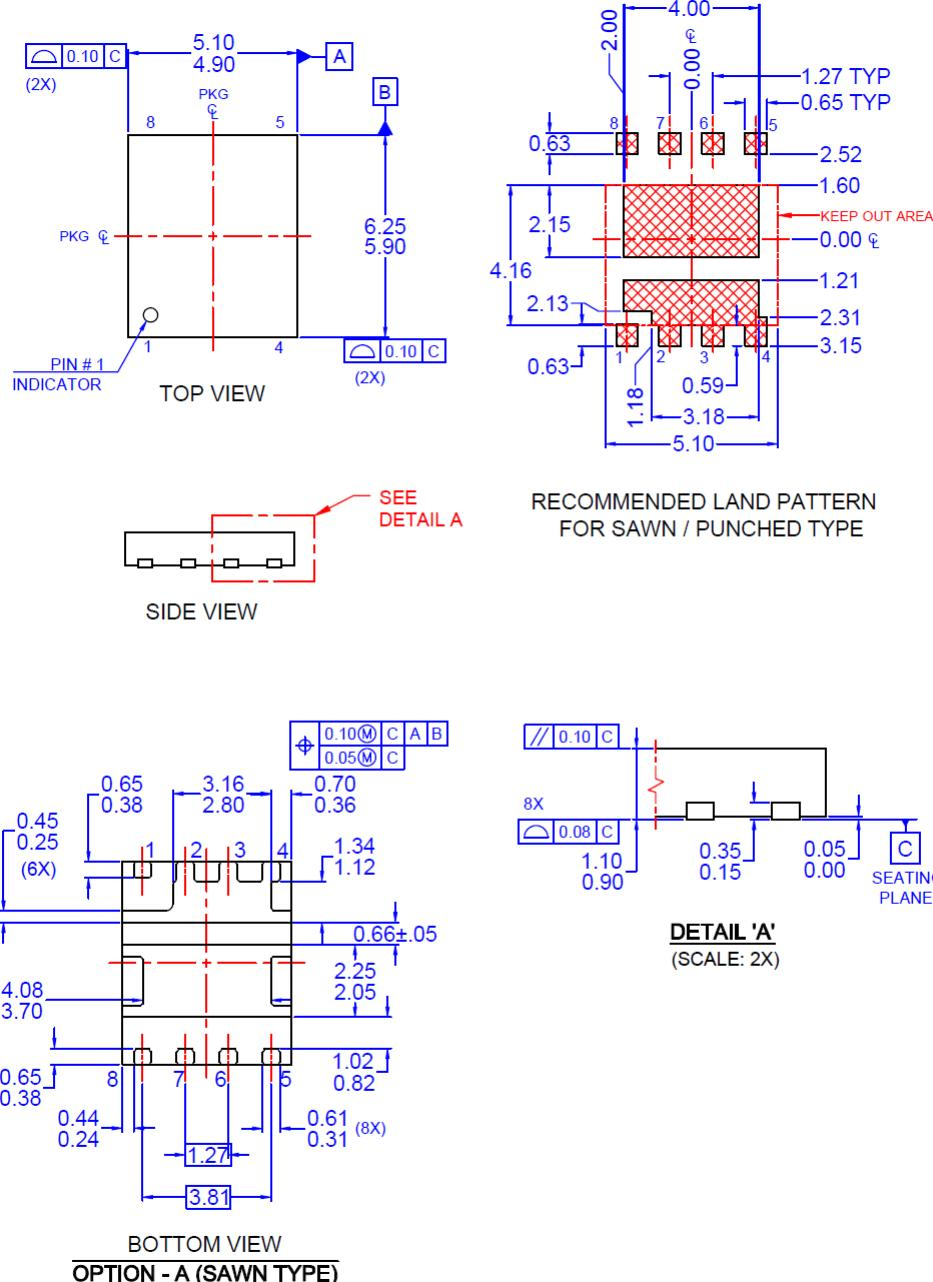

**Figure 31. Recommended PCB Layout**
2. The PHASE copper trace serves two purposes; In addition to being the current path from the Power Stage package to the output inductor (L), it also serves as heat sink for the lower FET in the Power Stage package. The trace should be short and wide enough to present a low resistance path for the high current flow between the Power Stage and the inductor. This is done to minimize conduction losses and limit temperature rise. Please note that the PHASE node is a high voltage and high frequency switching node with high noise potential. Care should be taken to minimize coupling to adjacent traces. The reference layout in figure 31 shows a good balance between the thermal and electrical performance of Power Stage.
3. Output inductor location should be as close as possible to the Power Stage device for lower power loss due to copper trace resistance. A shorter and wider PHASE trace to the inductor reduces the conduction loss. Preferably the Power Stage should be directly in line (as shown in figure 31) with the inductor for space savings and compactness.